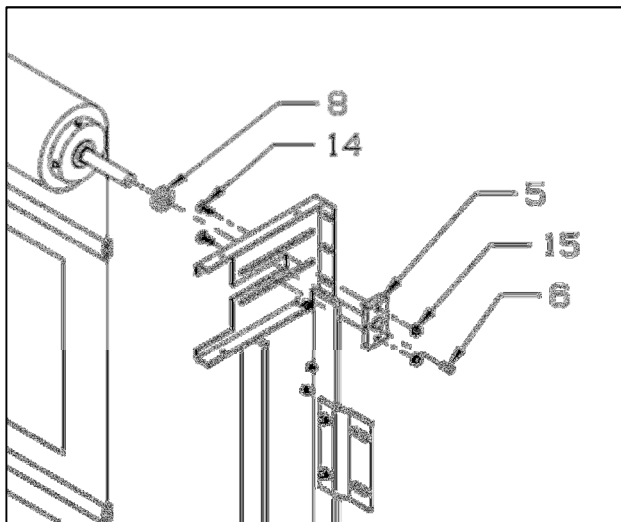

Fig. 9
13. Slide 3/8-in. neoprene spacer onto drum shaft at opposite end of motor. (See #8 in Figure 9). Then slide shaft mounting block onto shaft. Finger tighten shaft mounting block set bolts. (See #14 in Figure 9). Securely tighten upon alignment completion.